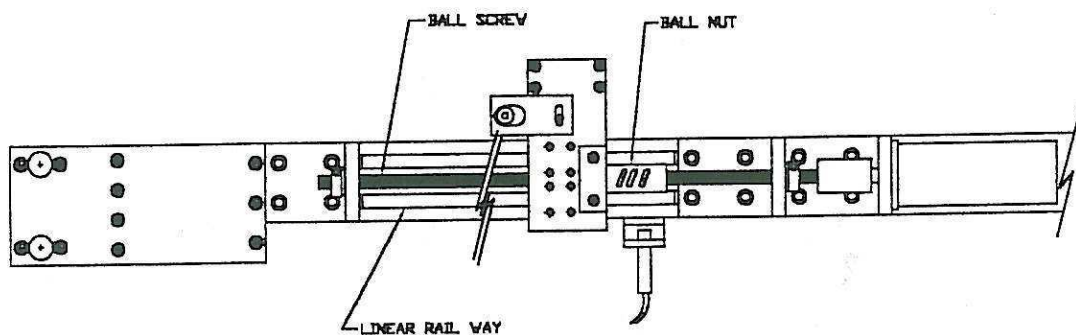
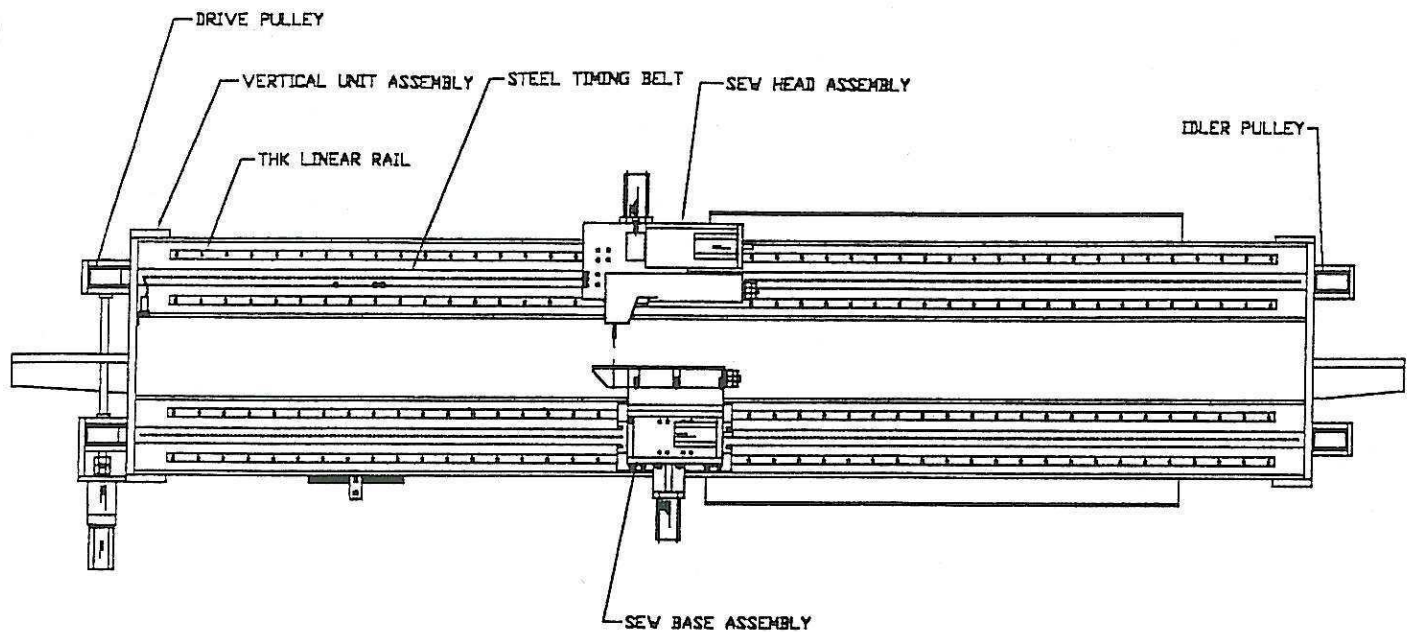

FIG.2
FIG.3
- 3- USE LITHIUM GREASE TO LUBRICATE ALL BALL BEARINGS INCLUDING: PILLOW BLOCKS, FLANGE BLOCKS, THK BALL-SCREW AND ALL PRESS FIT BEARINGS. SEE FIG.2 .
- 4- GREASE ALL ROLLER CHAIN ELEMENTS EVERY TWO MONTHS. OIL THE THK LINEAR BEARING X-AXIS AND Y-AXIS RAILS AND BEARING BLOCKS. REMOVE ALL DIRT, DUST AND GRANULATED PARTICLES FROM RAILS. SEE FIG. 3 FOR X-AXIS.
- 6- REMOVE ALL THREAD AND DUST FROM BALL SCREW SEE FIG. 2 . ALSO, REMOVE ALL FOREIGN MATERIAL SUCH AS SCREWS, BOBBIN SHELLS, NEEDLES, THREAD, AND SMALL TOOLS FROM THE MAIN HORIZONTAL AXIS UNIT. SEE FIG. 3 . IF THESE FOREIGN MATERIALS ARE NOT REMOVED FROM MAIN HORIZONTAL UNIT, THE SEW HEAD/BASE UNITS WILL CRASH AND CAUSE STEEL TIMING BELTS FAILURE OR THK BEARING BLOCKS FAILURE. CHECK FOR THESE MATERIALS EVERY FEW HOURS.